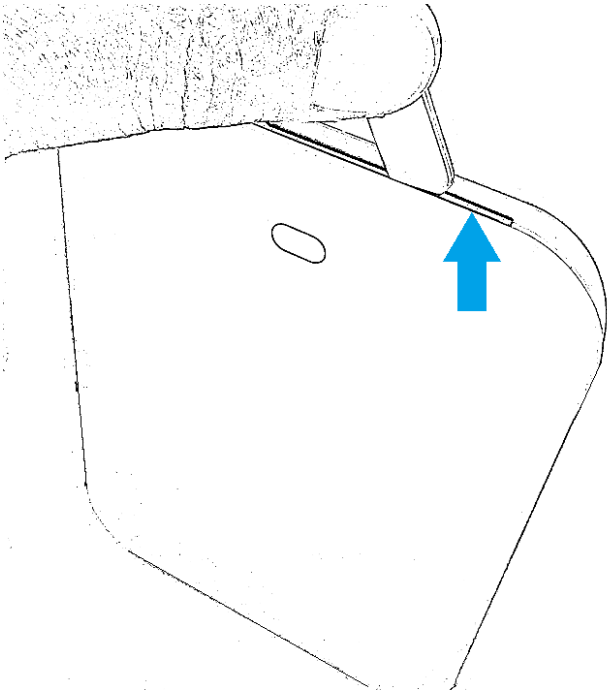

Fig. 2
1. Prepare a plastic card or other similar tool and insert it 2-3mm into the top gap. Be careful and DO NOT touch the electronic components. (Fig. 2)